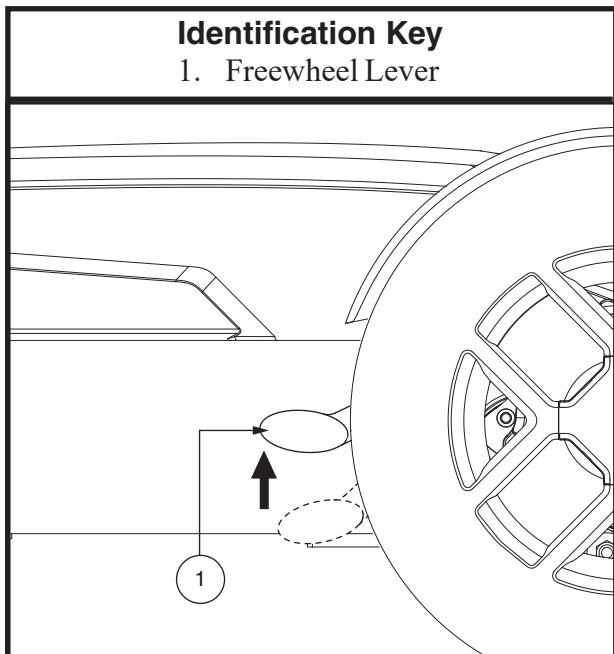

Figure 5. Drive Mode (Drive Engaged)
2. Pull both levers upward to engage the drive motors (drive mode). See **figure 5**.
2. Ensure the power chair is in drive mode. See **figure 5**.